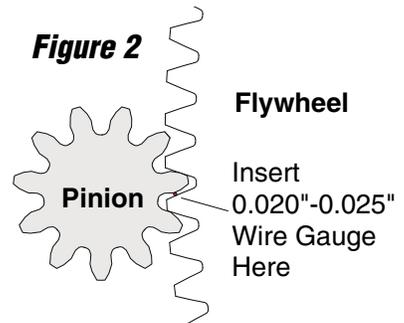

Figure 2
3) Insert a wire gauge to check for proper backlash between the ring gear and starter pinion (see Figure 2). There should be a 0.020" to 0.025" clearance measured from the flank of the starter pinion to the flank of the ring gear tooth. Check clearance at least three places on the ring gear. If the clearance is too small, add one shim at a time between the starter and engine block to bring it into specifications. In many installs, no shims are necessary.